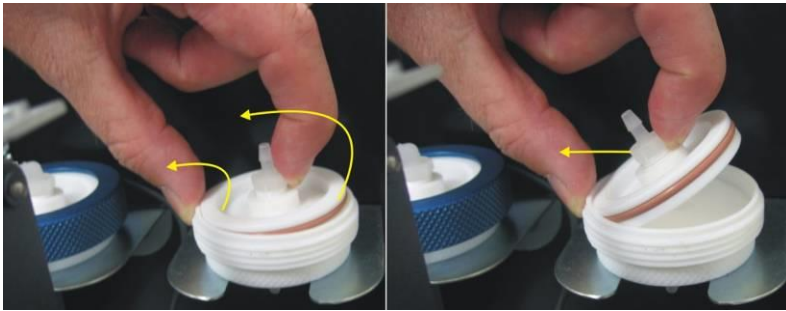

Figure 53 – Removing the Plunger
4. Remove the filter plunger from the casing, place finger on tubing connector and pull to the side (refer to Figure 53).